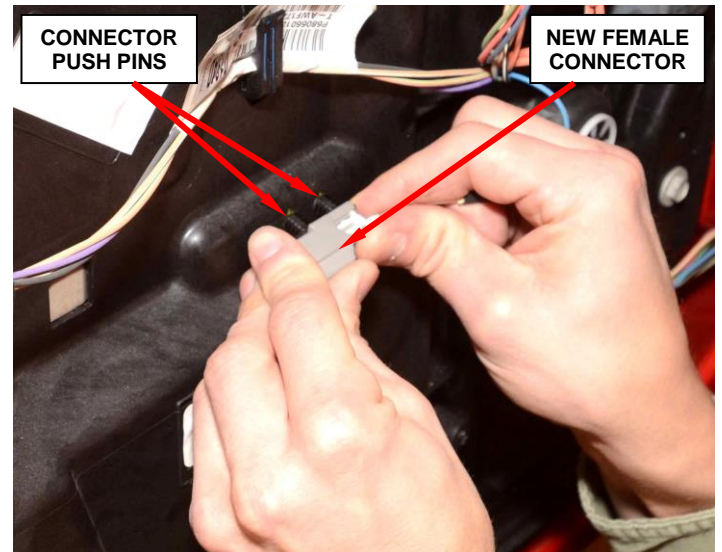

Figure 11 – Mount Connector to Door Module
21. Mount the female connector to the door module by pushing the connector push pins into the two holes made in Step 20 (Figure 11).